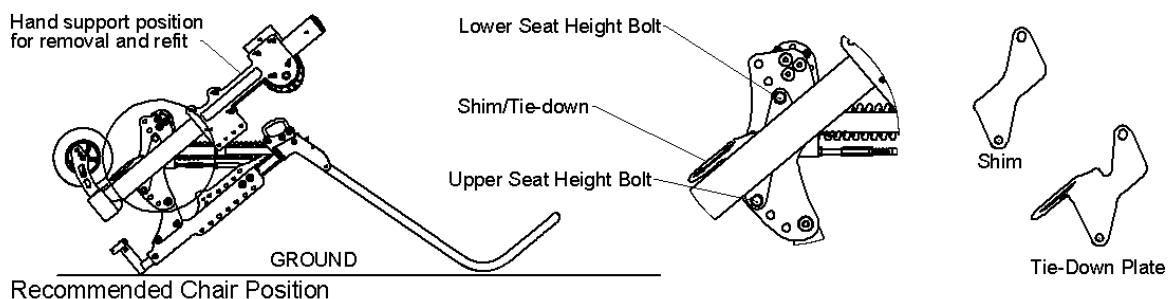

Figure 10.27: Recommended chair position
1. Remove the wheels, front rigging, and arms from the chair. Tip it forward so that it is resting on the back post and front rigging receivers as shown in Figure 10.27.